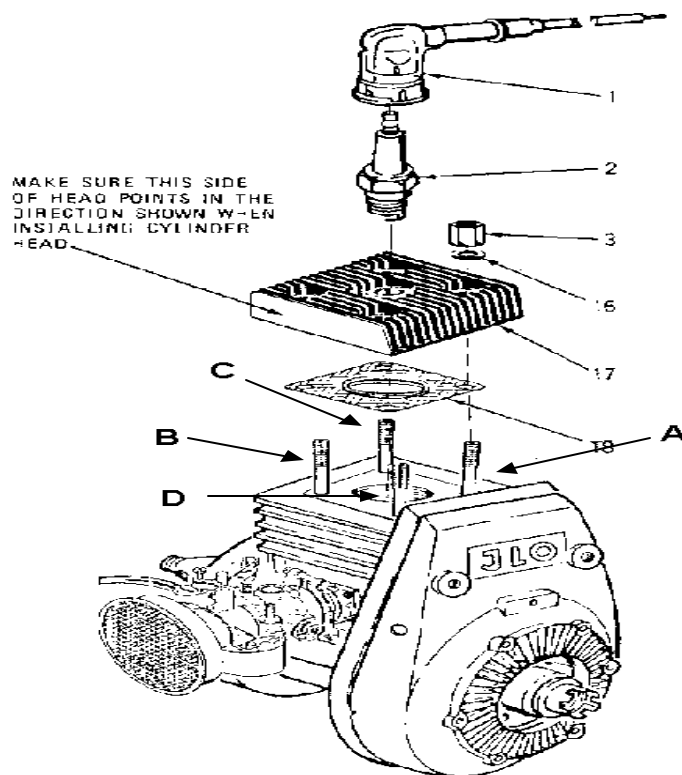

Figure 8, Replacement of Cylinder Head Gasket
Step 8: Replacement of cylinder head and gasket. (Figure 8)
- Disconnect cap (1) from spark plug.
- Remove spark plug (2).
- Remove four nuts (3) and washers (16).